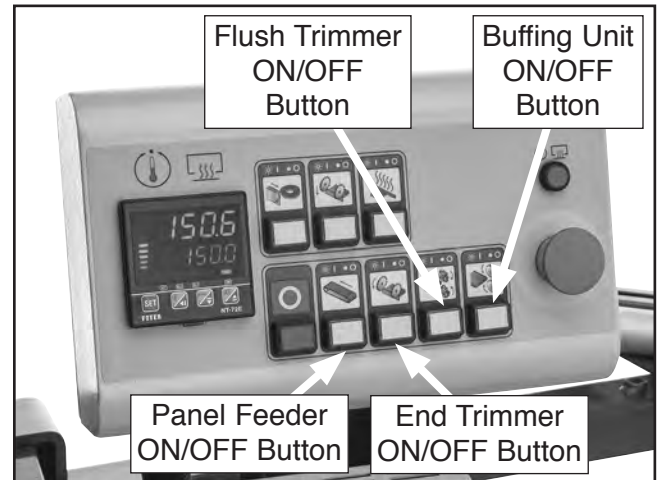

Figure 42. Panel feeder, end trimmer, flush trimmer, and buffering unit ON/OFF buttons.
12. Press panel feeder ON/OFF button (see **Figure 42**). Button should illuminate. Panel feeder motor should start up and run smoothly without any unusual problems or noises.
13. Perform same motor test (**Step 12**) for end-trimmer, flush trimmer, and buffering unit motors (see **Figure 42**).